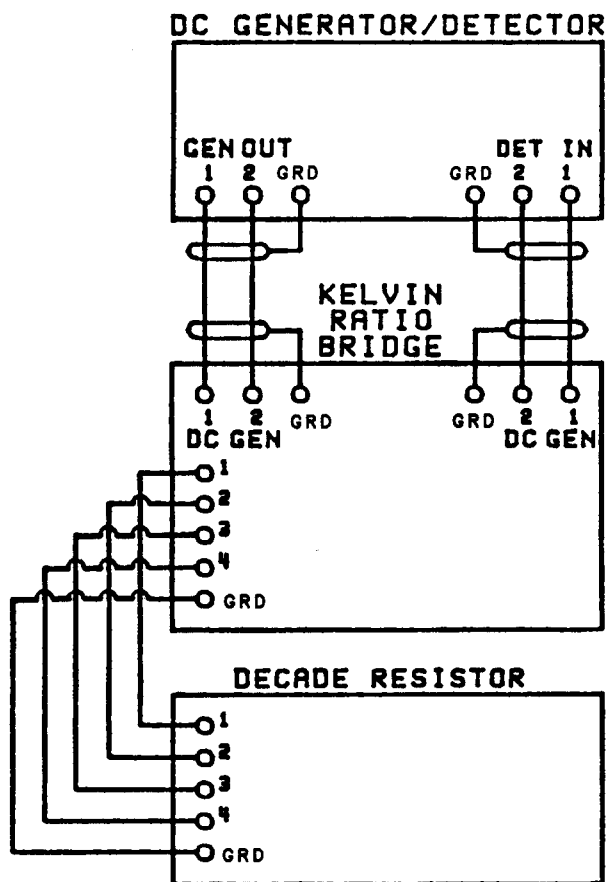

Figure 5.
- 4.7.1 Connect the equipment as shown in Figure 5.